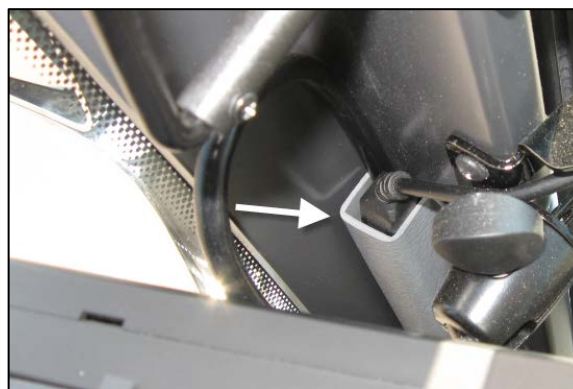

Figure 4
5. Remove cable cover on L.H. windshield post (Figure 4).